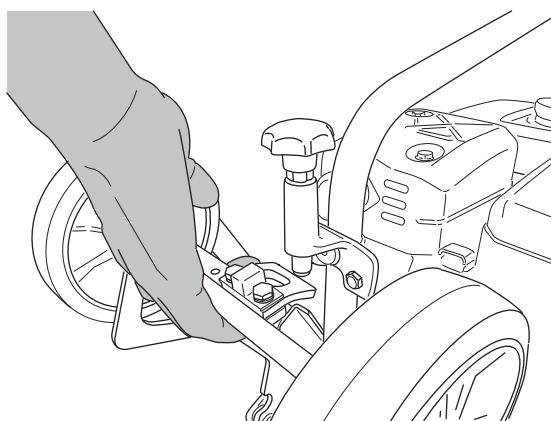

Fig.15
3. Revolve the cart until the storing position (fig. 15).